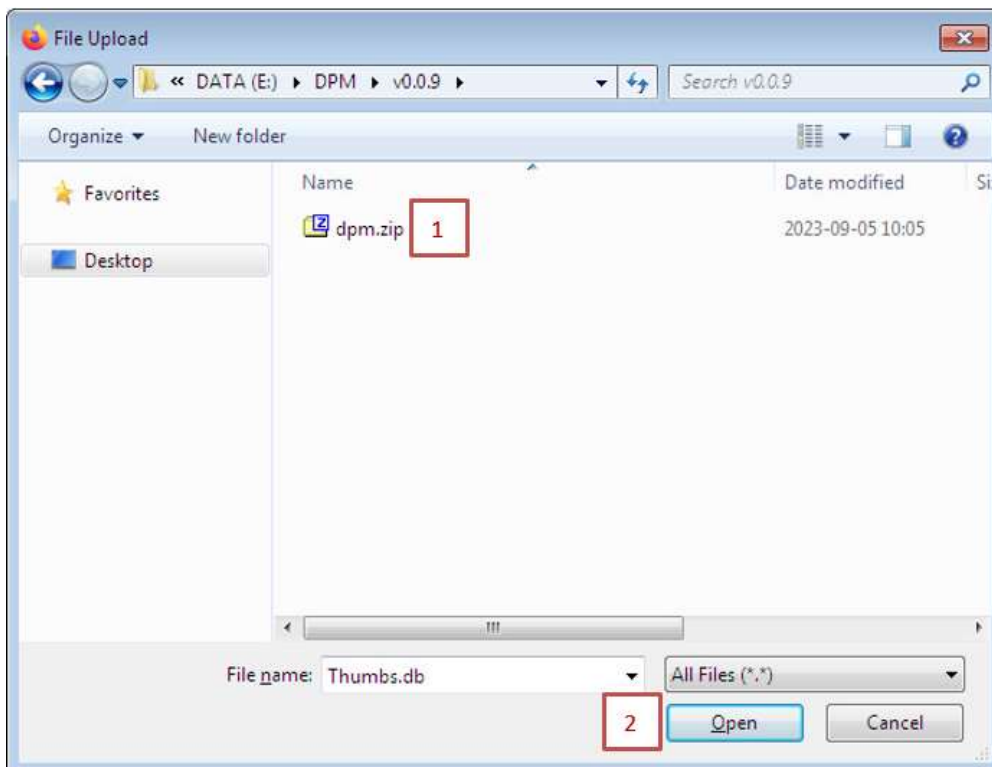

Fig.13. Software update dialog box
- In the software update dialog box, select the file [marker #1, Fig. 13], and click the 'Open' button [marker #2, Fig. 13]. The file must be named "dpm.zip."